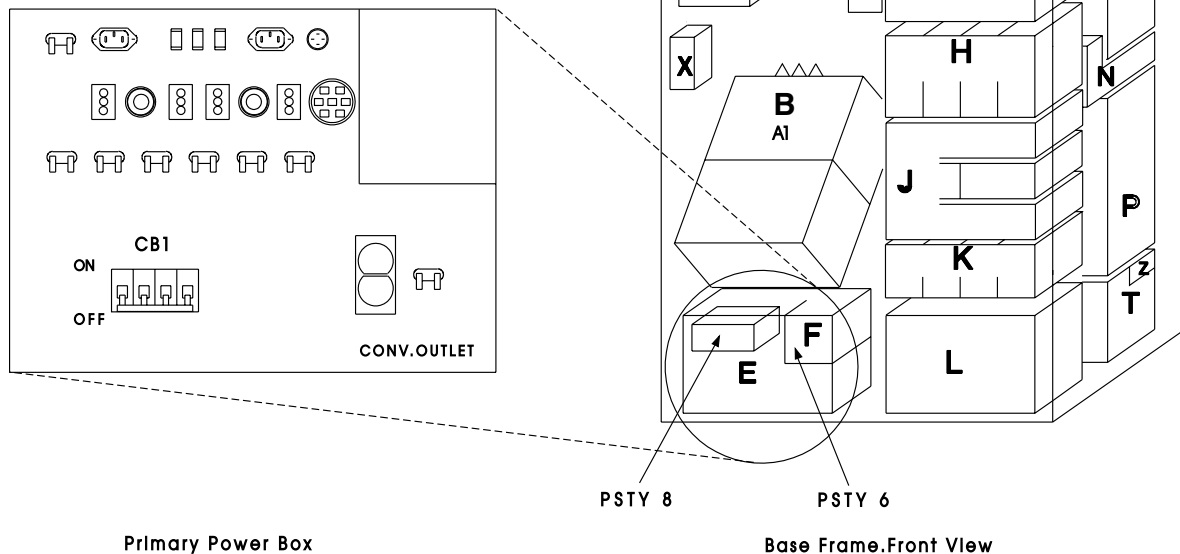

Figure 4-144. Primary Power Box in Frame 01
3. Switch **CB1** OFF. Refer to Figure 4-144.